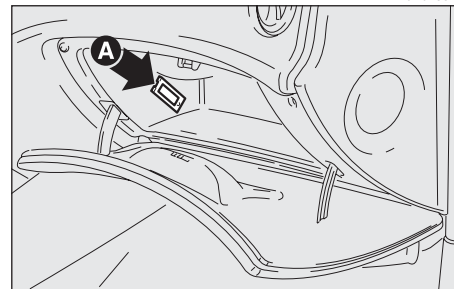

fig. 60
- Remove the light pushing with a screw-driver on the tab (**A-fig. 60**).